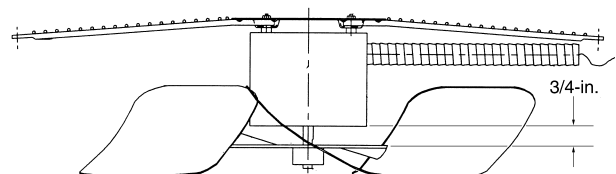

Fig. 21 — Condenser-Fan Adjustment
Condenser-Fan Adjustment (Fig. 21)
3. Adjust fan height as shown in Fig. 21.